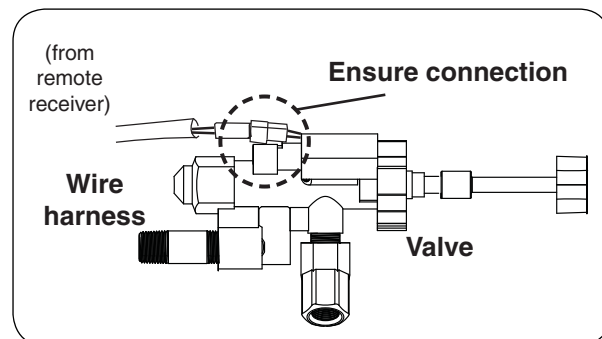

Fig. 9-2 Ensure harness connection
4. Ensure the remote receiver wire harness is properly connected to the valve as shown in Fig. 9-2.